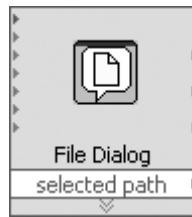

Figure 13.42
5. For the path, it will be best if we allow the user to choose the path with a dialog. Here's an easy way to program a prompt for the user to enter a filename: Use the Express VI **File Dialog** (shown in Figure 13.42), which may be found on the **Express>>Input** palette.